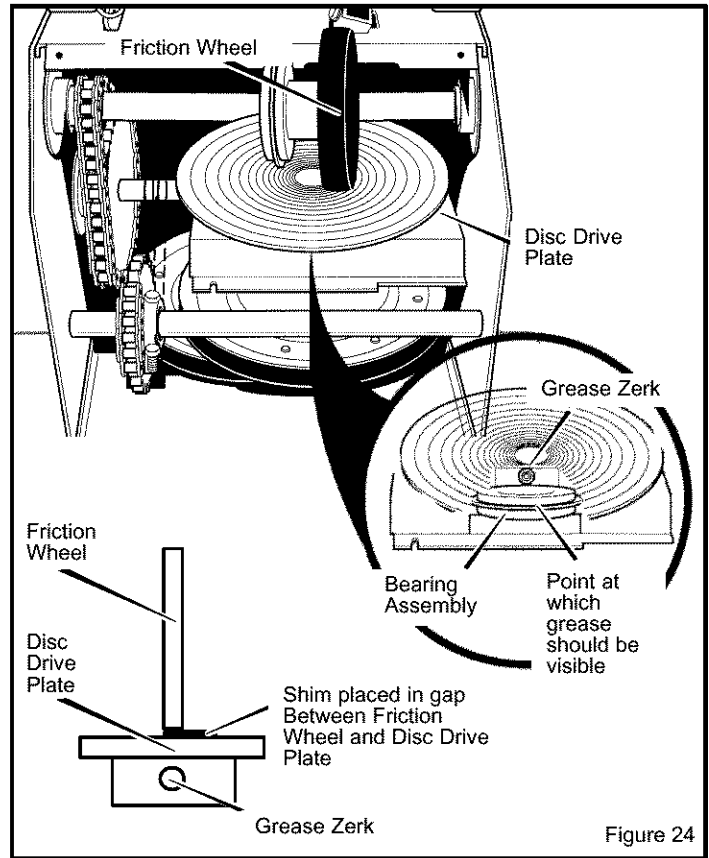

Figure 24
1. Position speed selector lever in first (1) forward gear.
4. Turn disc drive plate clockwise by hand until grease zerk is clearly visible at front center (see Figure 24).
5. Place a coin or (a shim of equal thickness) between the rubber friction wheel and disc drive plate to prevent rubber friction wheel contacting the drive disc (see Figure 24).
6. To grease zerk, use a hand grease gun, lubricate with a Hi Temp EP Moly grease. See inset of Figure 24. **DO NOT** over fill or allow grease to come in contact with the disc drive plate or friction wheel or damage will result. Fill zerk only until grease becomes visible below bearing assembly located under grease zerk.